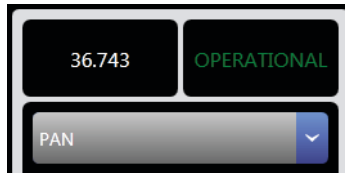

Figure 90 - Axis Status Area of the Axis Control Panel
2. In the **axis status area** (Figure 90), view the axis position and the operational status.